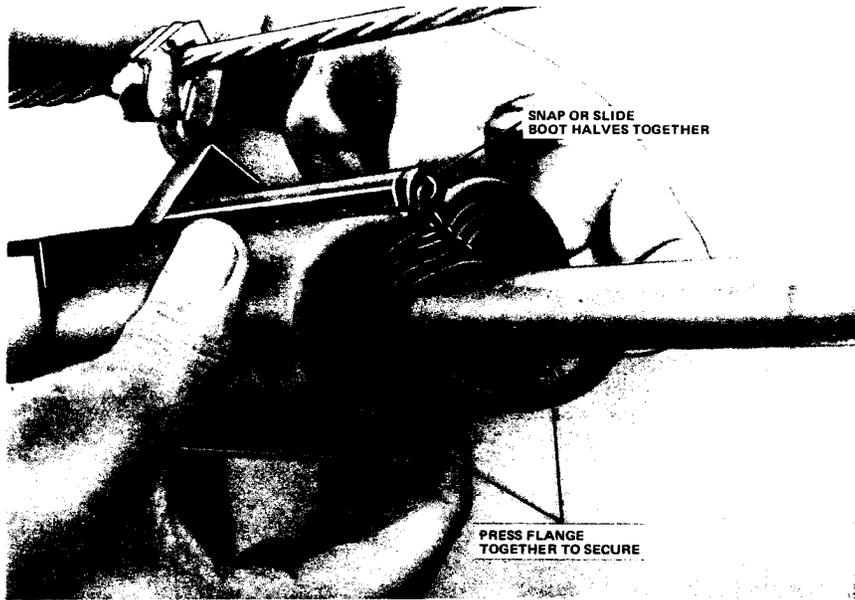

Fig. 23—Installing Cable Boots
4.15 Snap or slide two boot halves together and place the boot on the cable (Fig. 23). Press the flange together to engage the snaps and secure the boot in the closed position.